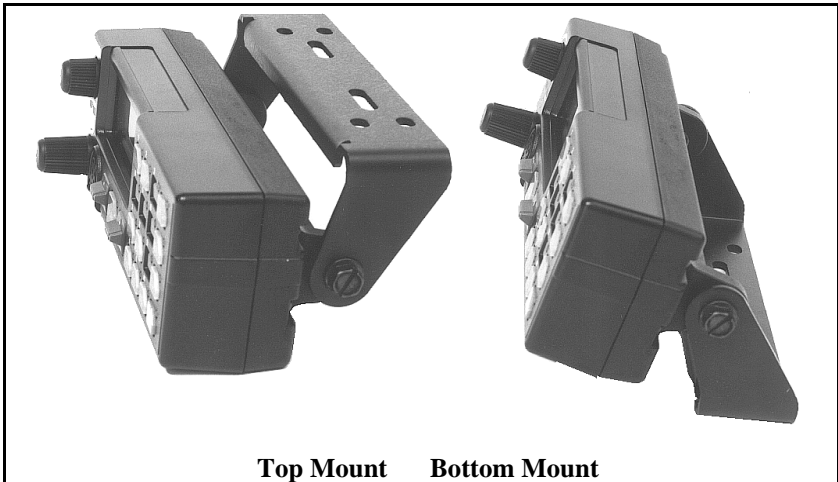
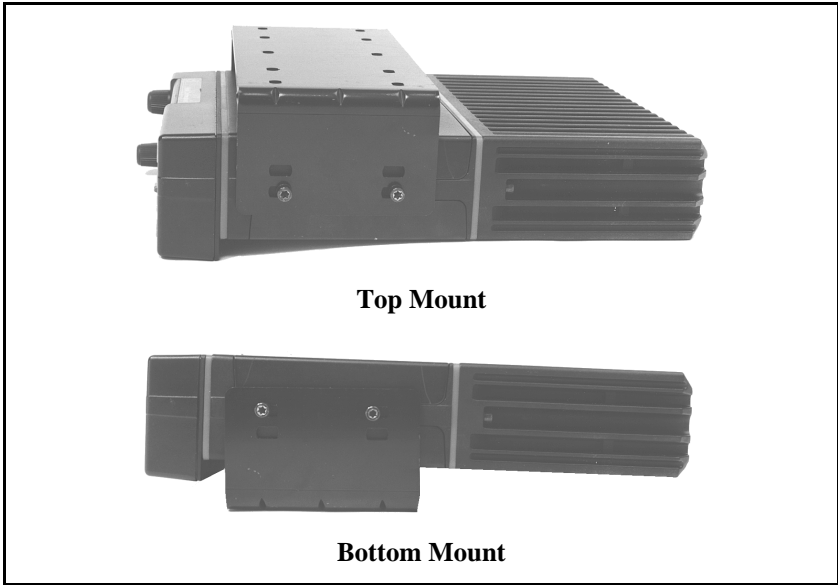
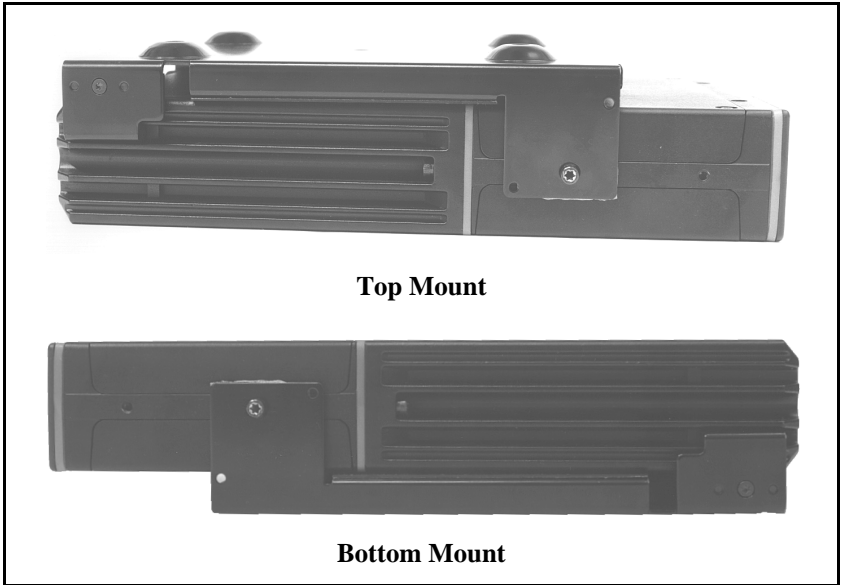

Figure 30: Control Unit Mounting Brackets
Figure 34: Mounting Bracket Installation
Figure 35: Remote Mounting Bracket Installation (USA Only)
1. Use the bracket as a template and mark and drill the mounting holes. Be sure to leave enough room at the rear of the control unit for the cable connector. Refer to Figure 30 for control unit mounting bracket installation.
Typically, the bracket shown in Figure 34 is used for Front Mount applications. The bracket can be mounted so that it is either above or below the radio as convenient. The bracket shown in Figure 30 can also be used for Remote Mount applications but is **not recommended for 110 watt VHF radios or 100 watt UHF radios**. The following instructions are for a Front Mount installation using the bracket shown in Figure 34.
The bracket shown in Figure 35 is used for Remote Mounting (USA only). In some applications, the bracket shown in Figure 34 can also be used. The following instructions are for a Remote Mount installation using the bracket shown in Figure 35.
3. Slide the radio unit into the bracket by aligning bracket guides with grooves on each side of radio (rear of radio should be inserted first). Slide radio back until screw holes in front of bracket align with screw holes in side of radio. See Figure 35.